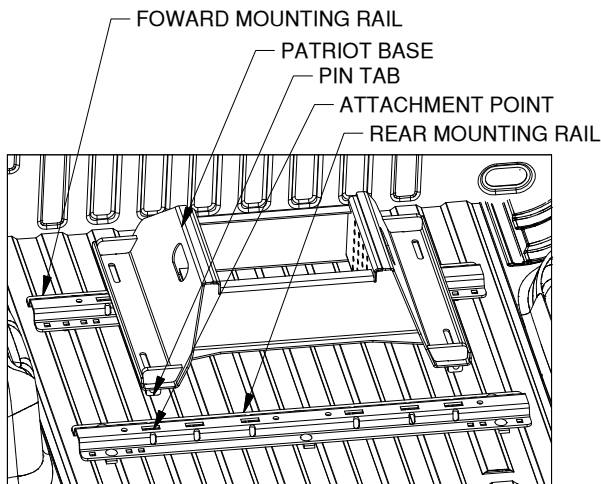

Figure E1: View into truck bed from tailgate.
- 1. Position the forward mounting rail.** For this step the base which will be used in the mounting rails is required. Place a mounting rail into the truck bed in front of the rear mounting rail. Place the base over the rail attachment points and carefully lower it until the pin tabs pass through the attachment points on the rear mounting rail. See Figure E1. Attach the forward mounting rail to the forward mounting points on the base. The base should rest flat against the top of the rails. With the base still attached ensure that the forward rail is centered in the truck bed.